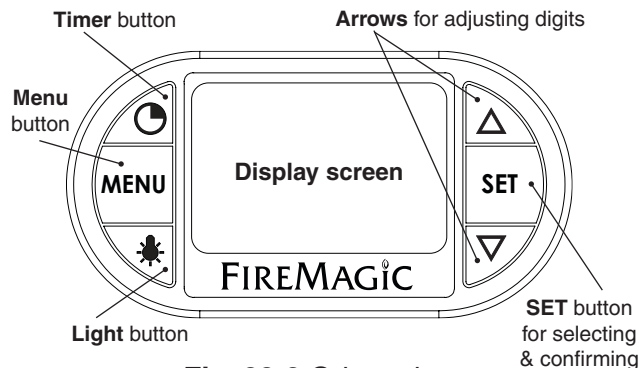

Fig. 28-2 Orientation
Read the following sections completely regarding thermometer operation. Refer to Fig. 28-2 for thermometer orientation and button locations.
1. Press the light button to turn both the interior oven lights and knob backlights **ON** (see Fig. 28-2). The interior oven lights will temporarily shut off when the hood is closed (except for Magic View models).